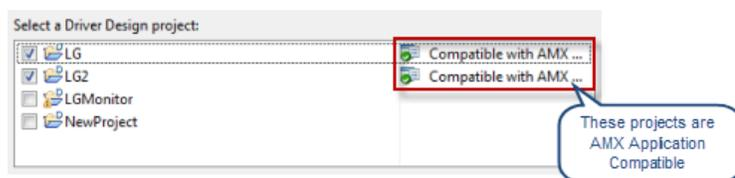

FIG. 87 Export Device Drivers dialog - Two Projects Selected for Export
4. Under *Select a Driver Design project:*, select the projects that you want to export (FIG. 87):